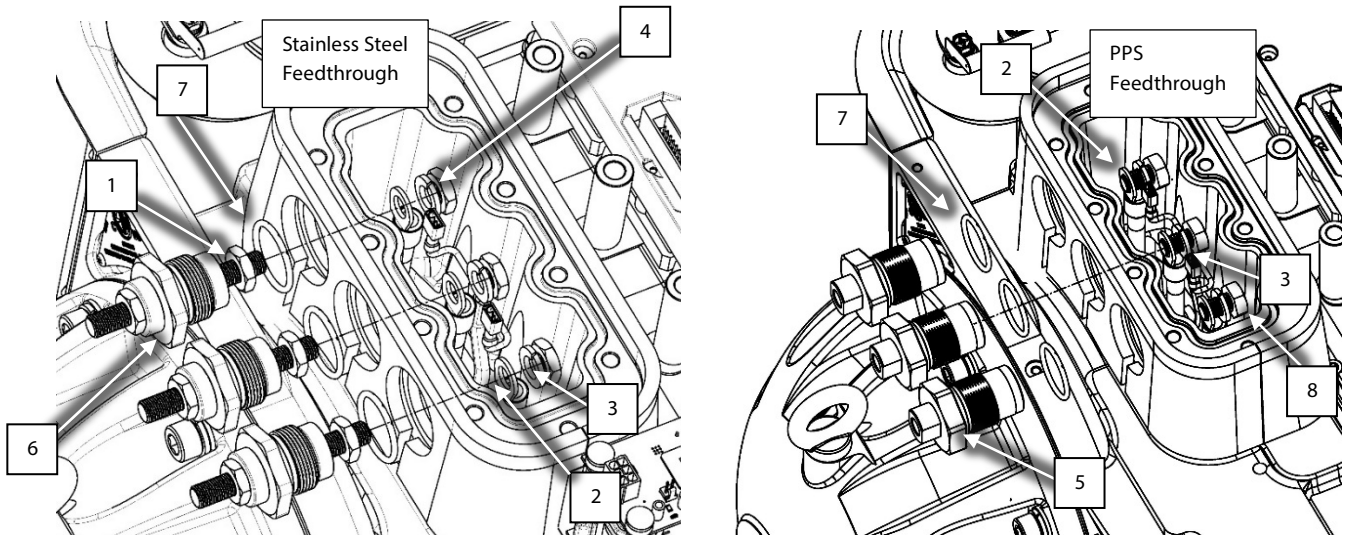

Figure 7 – High-Power Feedthrough Removal
16. Remove the three (3) outer nuts or screws (depending on installed feedthrough) in order to release the Motor Leads. Refer to Figure 7 (High-Power Feedthrough Removal) for examples of both versions.
17. Remove the three (3) High-Power Feedthroughs. Refer to Figure 7 (High-Power Feedthrough Removal).
18. Remove the three (3) High-Power Feedthrough O-rings from the Main Housing if they did not come out with the old feedthroughs. Refer to Figure 7 (High-Power Feedthrough Removal).